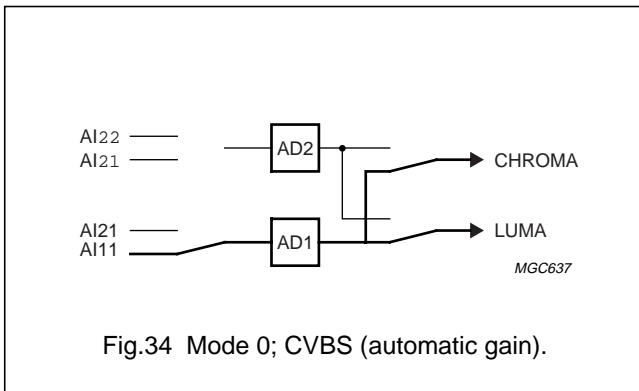

Fig.34 Mode 0; CVBS (automatic gain).
1. Mode select (see Figures 34 to 41).